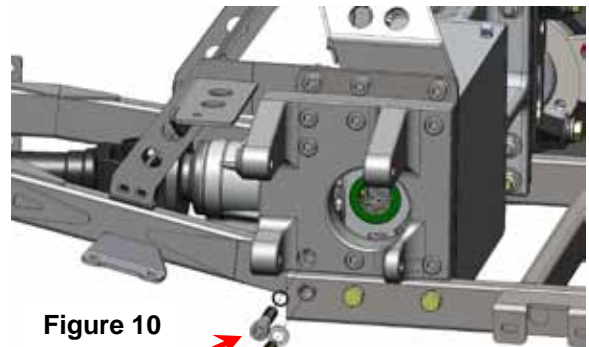

Figure 10
- d. Raise the swingarm up to the rear end assembly and install the supplied  $\frac{1}{2}$ -13 bolts, washers and nylock nuts.  $\frac{1}{2}$ -13x2-1/2" socket head plus small  $\frac{1}{2}$ " serrated washer (upper) and  $\frac{1}{2}$ -13x3" hex head plus  $\frac{1}{2}$ " washer (lower). See Figure 10.